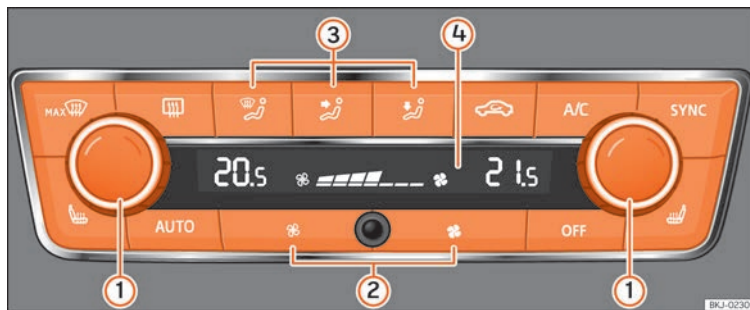

Fig. 172 Climatronic: controls.
- Adjust fan power to zero »» Fig. 172 ② or press the **OFF** button.
- Press the button **AUTO** »» Fig. 172.
- When you switch on the ignition, control ① >>> Fig. 172 can be used to set the required interior temperature.
- Press the button  >>> Fig. 172.